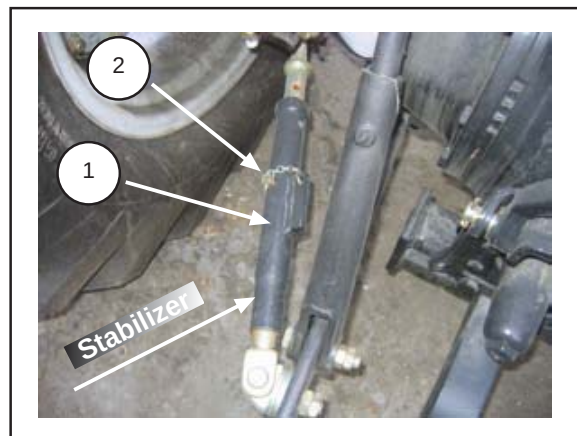

Fig. 68
The stabilizers (Fig. 68) will control the sway of the lower links and attached equipment when in work or being transported. This is especially important when operating on slopes or near fences, walls or ditches and with certain implements. Check your Implement Operator Instruction Book.
1. For fine adjustment (Fig. 68). Rotate the turnbuckle(1) as required.
2. For coarse adjustment, remove the lock pin (2) and lengthen or shorten the stabilizer as required. Replace the lock pin.
9. Adjust the length of the stabilizer (Fig. 68).